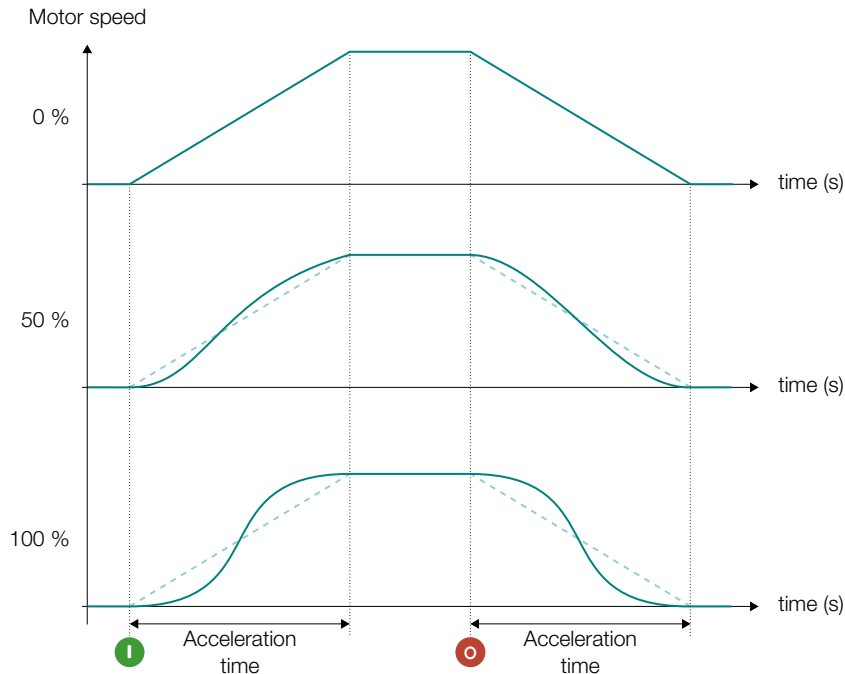

Figure 5.3 – S Ramp
- See Figure 5.3 on page 5-12.